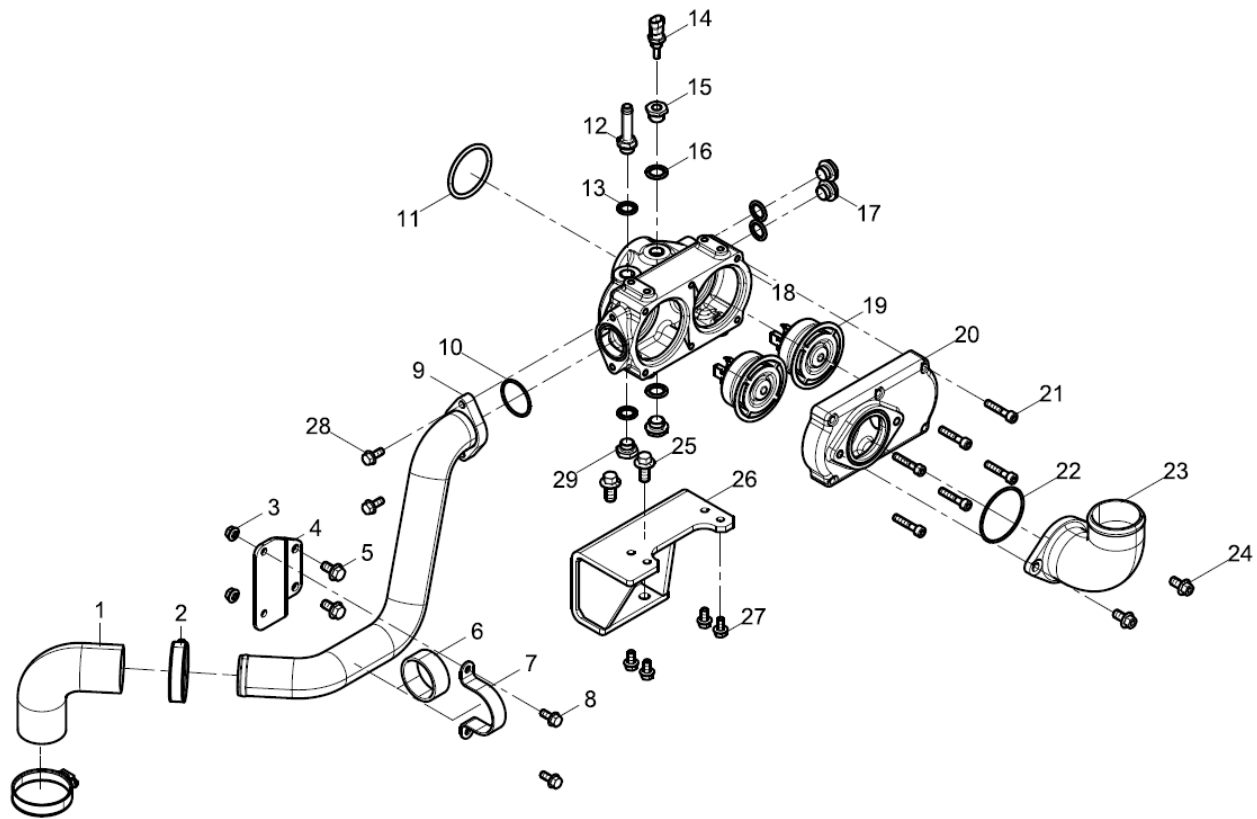

Figure 134. Thermostat Assembly
2. Remove the bolts (Figure 134, Item 21) and remove the thermostat cover (Figure 134, Item 20).
3. Carefully remove the thermostats (Figure 134, Item 19).
1. Install the new thermostats (Figure 134, Item 19) into the thermostat body (Figure 134, Item 18).
2. Install the thermostat cover (Figure 134, Item 20) and insert and torque the bolts (Figure 134, Item 21).